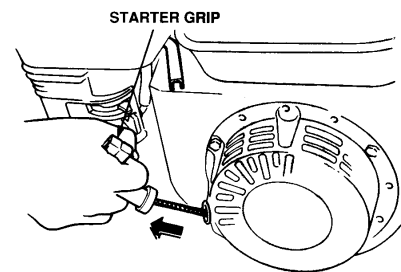

Figure 16. Starter Grip
3. Grasp the starter grip (Figure 16) and slowly pull it out. The resistance becomes the hardest at a certain position, corresponding to the compression point. Pull the starter grip briskly and smoothly for starting.